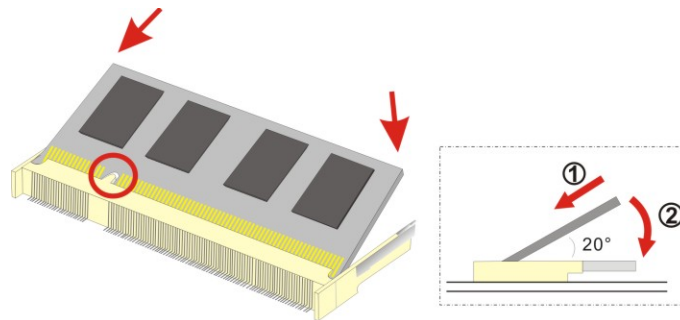

Figure 5-5: SO-DIMM Installation
To install a SO-DIMM into a SO-DIMM socket, please follow the steps below and refer to **Figure 5-5**.
- Step 3:** **Insert the SO-DIMM.** Push the SO-DIMM chip into the socket at an angle. (See **Figure 5-5**)
out and push the rear of the SO-DIMM down. (See **Figure 5-5**)